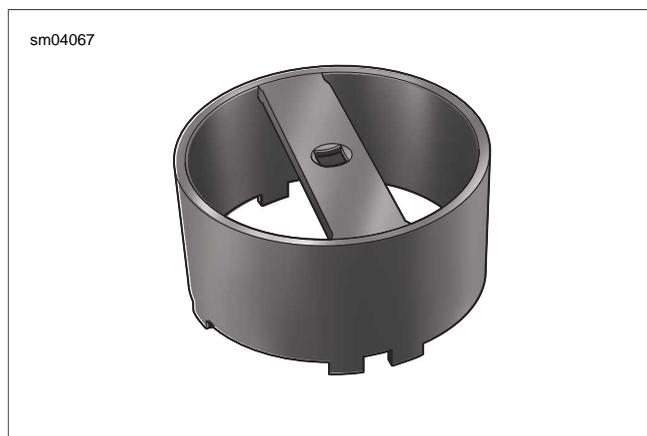

Figure 4-6. Cam Ring Remover/Installer (HD-48646)
5. Obtain CAM RING REMOVER/INSTALLER (Part No. HD-48646) See Figure 4-6.